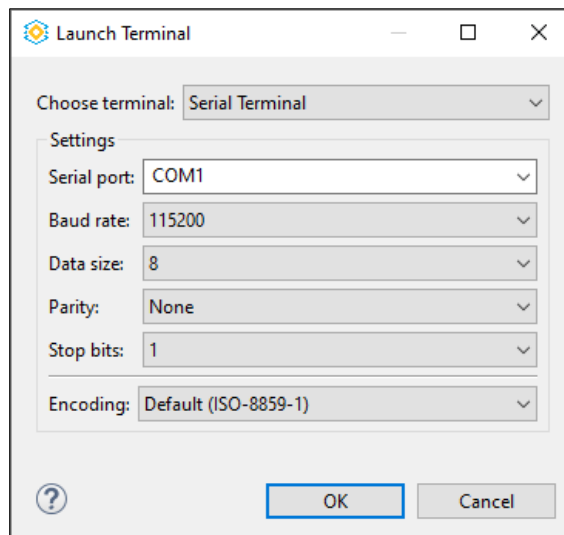

Figure 3.53. Launch Terminal Dialog 1
2. In the **Terminal** view, click the **Open a Terminal** icon . The **Launch Terminal** dialog opens (Figure 3.53).